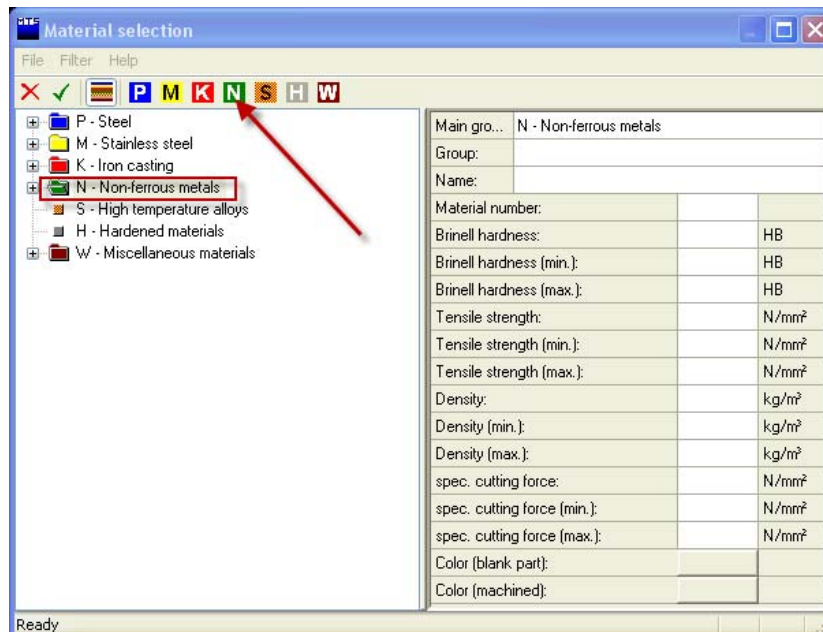

Fig. 2.9: Material class selection
- d. Select **“Non ferrous folder”** or click on the green **“N”** to select the required material as shown in Fig. 2.9